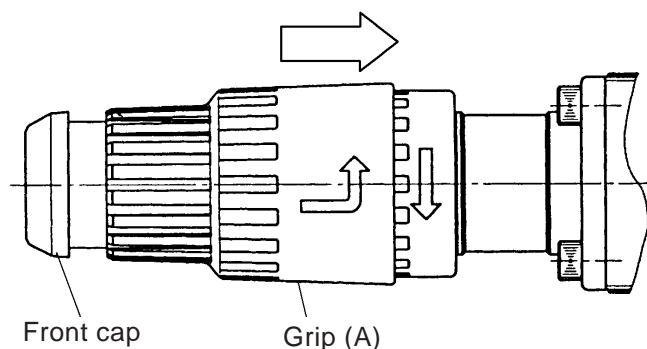

Fig. 2
- Retainer disassembly (See Figs. 2 and 3.)
Pull Grip (A) **[2]** fully in the arrow direction as shown in Fig. 2 and remove the Front Cap **[1]** (since the Front Cap **[1]** is made of rubber and engaged firmly with Grip (A), pull it strongly to remove). This allows Grip (A) **[2]** to be separated from the Retainer Sleeve **[19]**.